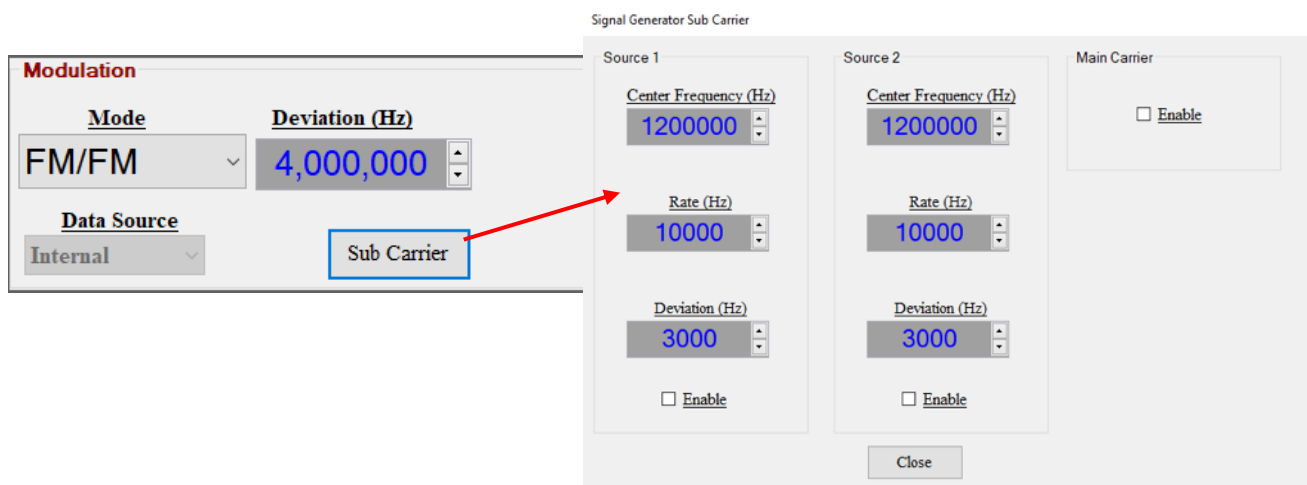

Figure 4-12
- B. **FM/FM Subcarrier** - The FM/FM Subcarrier modulation mode provides the ability to set up either one or two FM subcarriers. Figure 4-12 shows the Subcarrier settings that are accessed on the GUI when **FM/FM** modulation is selected. The user clicks on the **Sub Carrier** box to enable the **Signal Generator Sub Carrier** settings. One or Two FM subcarrier modulation signals can be set up and generated by clicking on the **Enable** box for each subcarrier as shown.